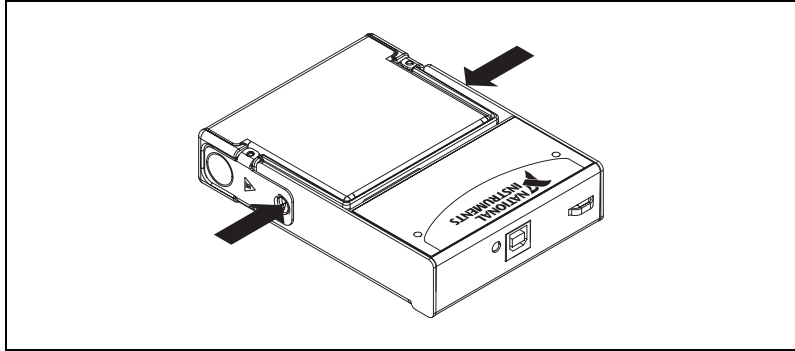

Figure 5. Locking Module into Place
5. Press firmly on the connector side of the NI 9229/9239 module until the latches lock the module into place, as shown in Figure 5.